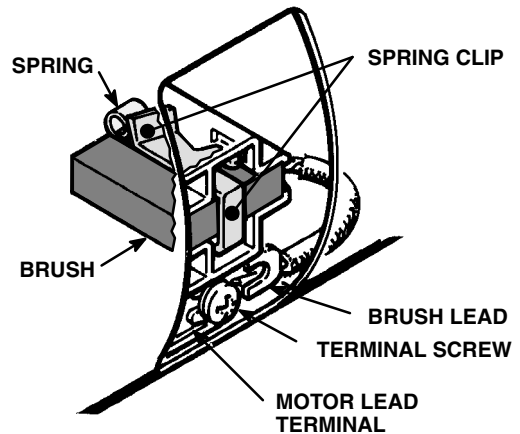

Fig 25-3
NOTE: Replace the brushes when they have worn to less than 1/2 in. Refer to STEP 1, Fig 25-3. Note that the brushes wear differently on each side of the motor, so check them both. Brush Repair Kit 220-853 is available.
3. Loosen the brush lead terminal screw. Pull the brush lead away, but leave the motor lead terminal in place. Remove and discard the brush and spring. Refer to Fig 25-3.